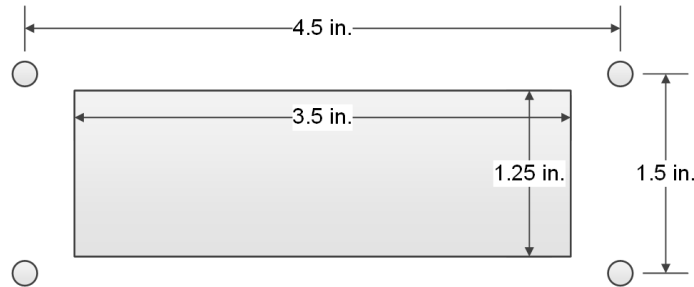

Figure 8. Panel Switch Cutout Dimensions
- Drill and cutout the identified location based on the template shown in Figure 8 below.